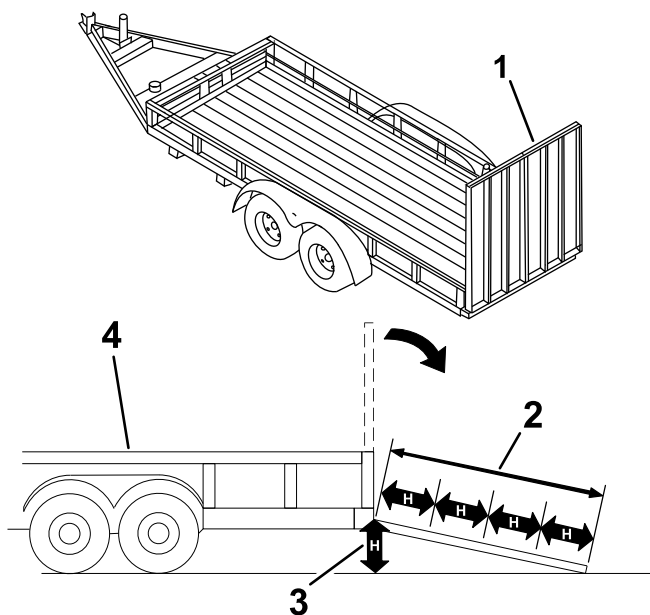

Figure 29
Loading a machine onto a trailer or truck increases the possibility of tip-over and could cause serious injury or death (Figure 29).
3. Lower the ramp (Figure 29).